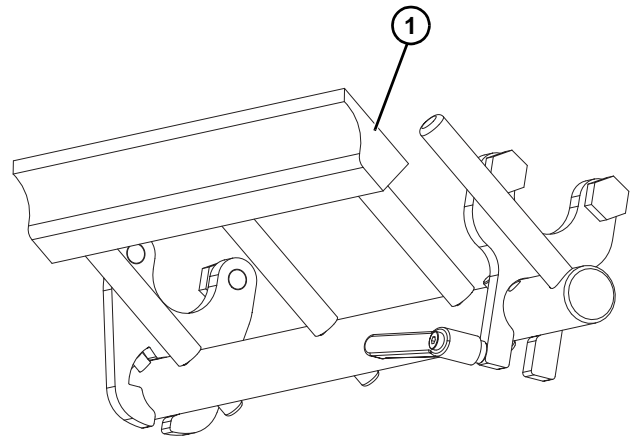

Figure 69
When installing scraper, make certain that flat portion of scraper (**Figure 69, item 1**) is facing toward belt as shown.